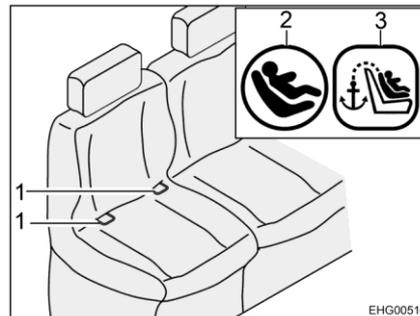
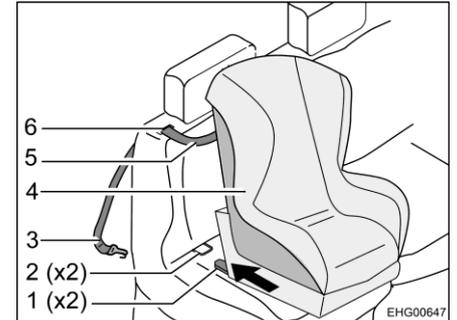

Fig. 6 Seat with ISOFIX
Fig. 7 Fastening with top tether
- Guide the top tether strap (Fig. 7,5) through the slot (Fig. 7,6) in the cushion of the backrest (next to the headrest).
- Hook the fixing hook (Fig. 7,3) onto the attachment point on the back of the vehicle seat.
- Have the connectors (Fig. 7,1) snap into the retaining clips (Fig. 6,1 and Fig. 7,2). While doing this, a distinctive click must be heard.
- With a strong jerk, check if the child seat (Fig. 7,4) is firmly connected.